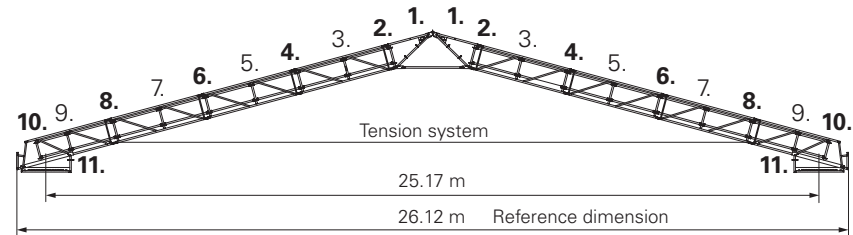
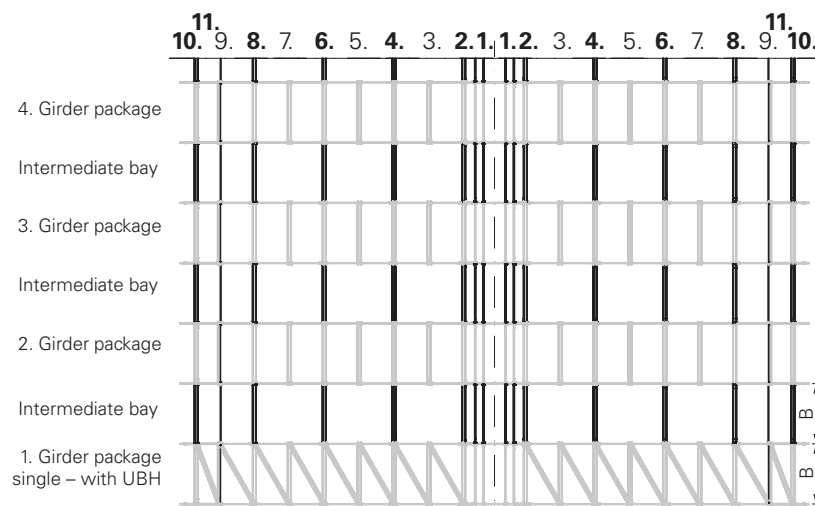

Fig. B1.06a
Fig. B1.07a
- with tension system (Fig. B1.06a),
(Fig. B1.06a)
- 1. girder package, single (Fig. B1.07a)
The numbers in Fig. B1.06a + B1.06b refer to the suspension points of the connecting components of the intermediate bays in Fig. B1.07a + B1.07b.